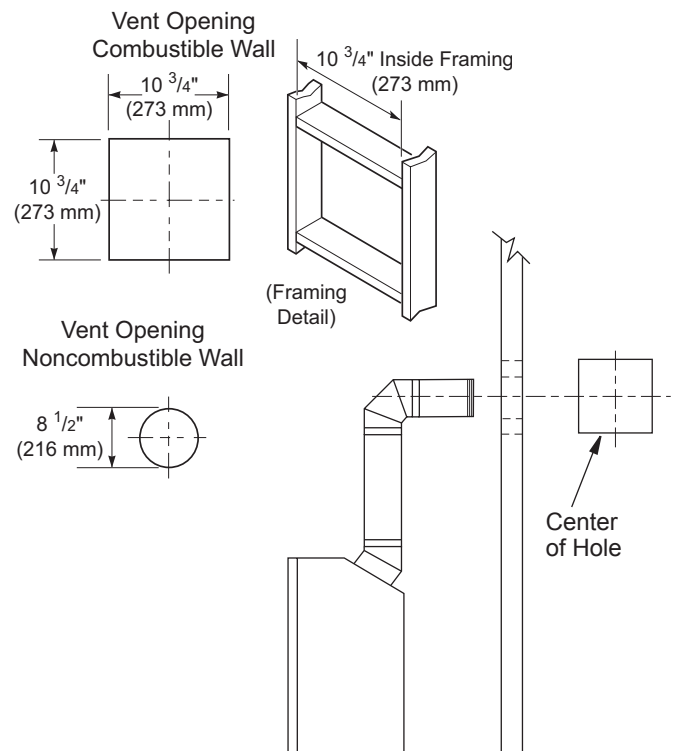

Figure 9 - Vent Opening Requirements
5. Carefully determine the location where the vent pipe assembly will penetrate the outside wall. The center of the hole should line up with the center-line of the horizontal vent pipe. Mark the wall for a 10 3/4" x 10 3/4" square hole. Cut and frame the square hole in the exterior wall where the vent will be terminated. If the wall being penetrated is constructed of noncombustible material, such as masonry block or concrete, a 8 1/2" hole with zero clearance is acceptable (see Figure 9).
1. Cut a 10 3/4" square hole in the ceiling using the locating hole as a center point. The opening should be framed to 10 3/4" x 10 3/4" (273 mm x 273 mm) inside dimensions, as shown in Figure 9 on page 8 using framing lumber the same size as the ceiling joists. If the area above the ceiling is an insulated ceiling or a room, nail firestop from the top side. This prevents loose insulation from falling into the required clearance space. Otherwise, install firestop below the framed hole. The firestop should be installed with no less than three nails per side (see Figure 20).
3. Cut a hole in the roof using the locating hole as a center point. (Cover any exposed open vent pipes before cutting hole in roof.) The 10 3/4" x 10 3/4" hole must be measured on the horizontal; actual length may be larger depending on the pitch of the roof. There must be a 1" clearance from the vent pipe to combustible materials. Frame the opening as shown in Figure 9, page 8.